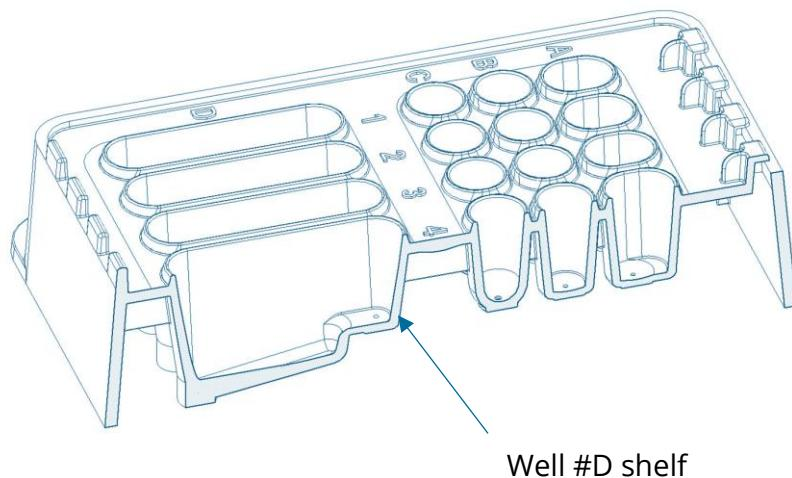

Fig. 2.4. Cross section of the Xdrop DE20 Cartridge. Note the location of the shelf in well #D.
4. Unpack the cartridge and place it on a clean, flat surface in a LAF (laminar air flow) cabinet or a similar clean, dust-free environment. The layout of the Xdrop DE 20 Cartridge is shown in Fig. 2.3. A cross-section of the cartridge is shown in Fig. 2.4.
11. Load **40 µl** of the outer phase (e.g., medium with Stabilizing Solution or DE PCR buffer) onto the shelf of the collection well (#D; Fig. 2.4).
13. Load **100 µl** of Droplet oil (DE) • into well **#B**.